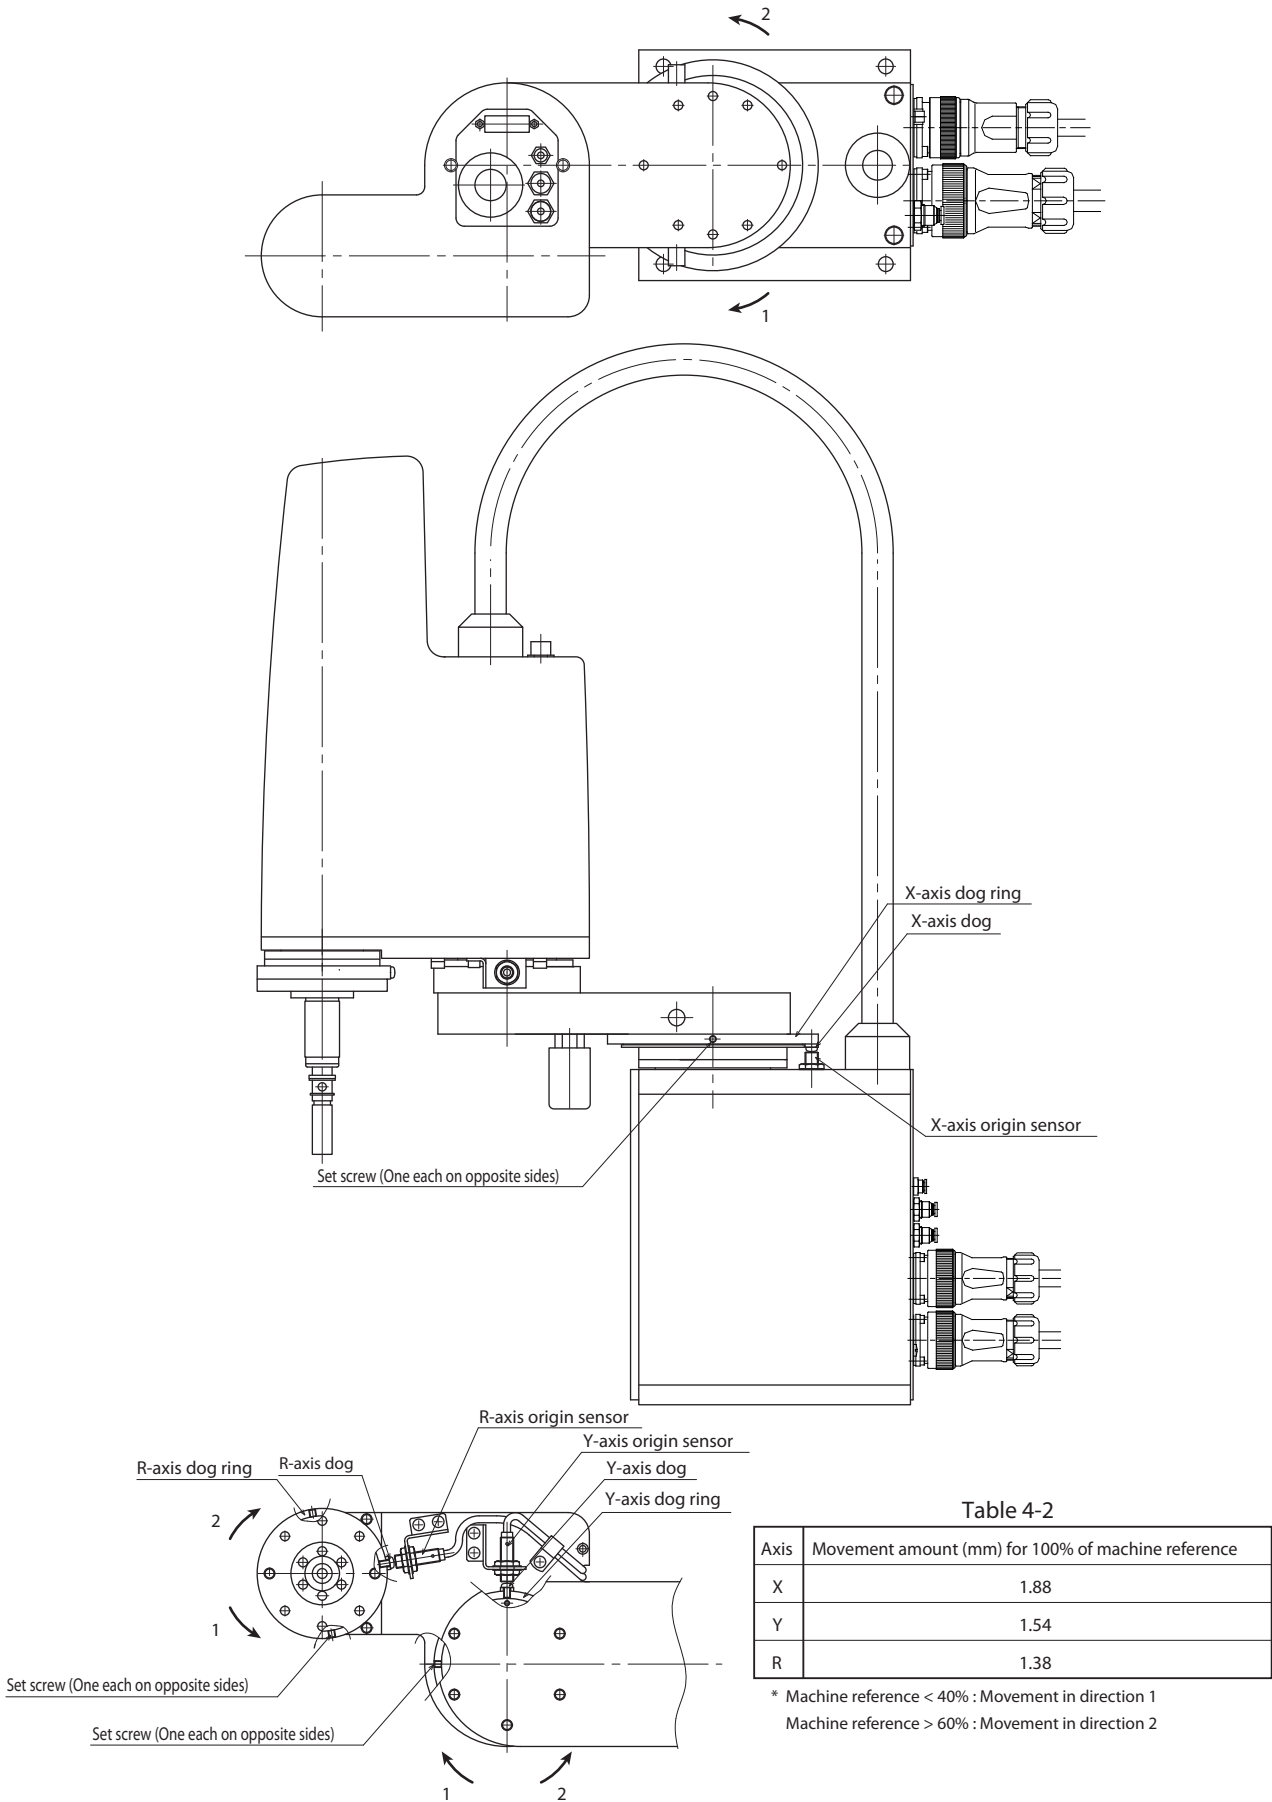

Fig. 4-7
- 6) Use the hex wrench to loosen two setscrews which fasten the dog ring of the X-axis joint area. (See Fig. 4-7.)
- 8) Use the hex wrench to loosen two setscrews which fasten the dog ring of the Y-axis joint area. (See Fig. 4-7.)
- 9) Refer to Fig. 4-7 and Table 4-2 and turn the dog ring to the minimum extent.
- 6) Use the hex wrench to loosen two setscrews which fasten the dog ring of the Y-axis joint area. (See Fig. 4-7.)
- 8) Use the hex wrench to loosen the two setscrews which fasten the dog ring on the R-axis area. (See Fig. 4-7.)
- 6) Use the hex wrench to loosen the two setscrews which fasten the dog ring on the R-axis area. (See Fig. 4-7.)